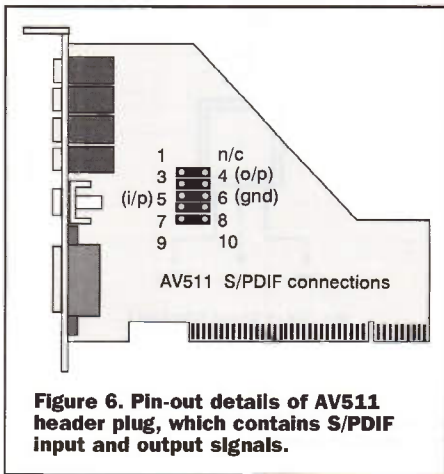
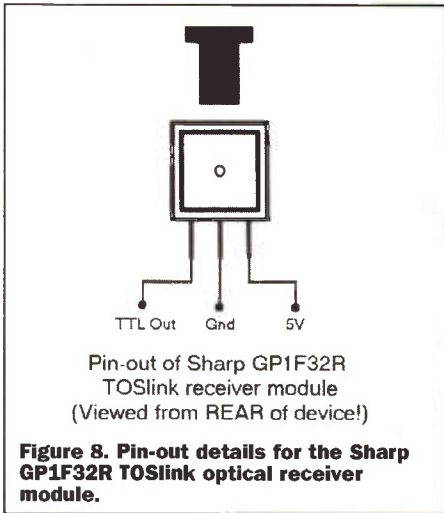
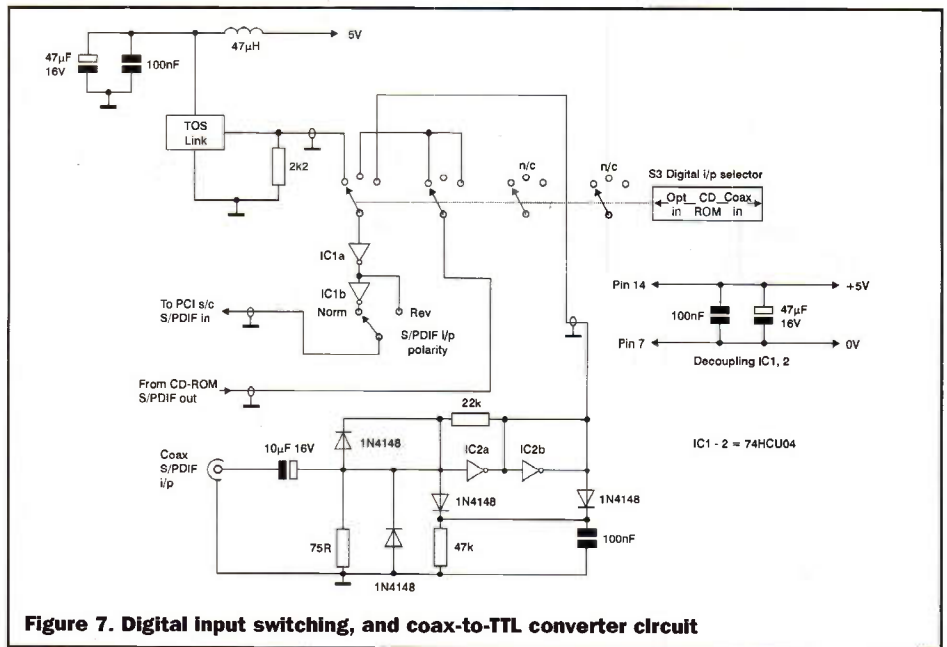

Figure 6. Pin-out details of AV511 header plug, which contains S/PDIF input and output signals.
Figure 8. Pin-out details for the Sharp GP1F32R TOSlink optical receiver module.
Figure 7. Digital input switching, and coax-to-TTL converter circuit
The bargain-basement Audio Excel AV511 PCI soundcard, which forms a bargain digital audio I/O device. Although we've specified this card for our project, it can be used to add S/PDIF input and output to any device - the circuits of Figure 7 and 10 are still relevant.
A 10-way header connector on the AV511, reproduced in Figure 6, contains the (TTL-level) S/PDIF inputs and outputs. Pin 4 is the output, Pin 5 the input, and Pin 6 a convenient ground. To integrate the card into the system, some extra hardware is required. The first is a circuit - shown in Figure 7 - that converts the low-level 1V coaxial S/PDIF signal to a TTL-level one compatible with the AV511. The ingenious circuit, developed by Heiko Purnhagen, was found to work exceptionally well. The active circuitry consists of two hex inverters (part of 74HCU04, IC1). Note that a Toslink receiver module delivers a TTL-level signal, and will feed the AV511 directly. This device - shown in Figures 8 and 9 - is required if your source equipment is equipped with an optical output. We have specified the Sharp GPIF32R, because availability is good - albeit not from Maplin stores. Guess which company used to sell Toslink modules, but does no longer? Note that many Sony MD and DAT decks are only equipped with an optical output, giving you no choice but to adopt the Toslink input method unless you're prepared to make modifications to
your decks! Figure 7 also shows the prototype's digital input switching arrangements. Here, S3 - a 4-pole 3-way rotary type (FF76H) - selects between the coaxial input, optical input and the rear-panel TTL-level S/PDIF output fitted to many modern CD-ROM and CD-R(W) drives. Two of the spare gates of IC1, and a changeover switch, provide a S/PDIF input inverter. In my experience, the AV511 is very fussy about what's presented to it. If the polarity of the signal isn't what the card expects, you'll get horribly distorted audio. Flicking the 'invert' switch should fix the problem, which seems to vary from one digital source to another.
switch's other poles simultaneously switch in the relevant analogue stereo outputs. Note from Figure 7 that the CD-ROM drive's S/PDIF output is not available when the digital input selector is set to deliver this signal to the AV511.
The travelling salesman problem asks the following question. "Which is the shortest route between a number of named cities?". In some cases, and with comparatively few cities, for example London, Glasgow, Aberdeen, Manchester, then the answer is obvious - London - Manchester - Glasgow - Aberdeen. In the general case, though, it isn't. Take a look at Figure 7 and I think you'll agree that it's not immediately obvious which sequence you should visit these cities to achieve the shortest round trip. Nobody has managed to come up with a solution other than the obvious one of adding up the total distance for each of the permutations and taking the lowest total. The snag, though, is that the number of permutations can be quite large and that it increases rapidly as the number of cities increases. For the example given in Figure 7 there are no less than 362,880 possible routes and if we increase the number of cities to, say, 15, the number of possible